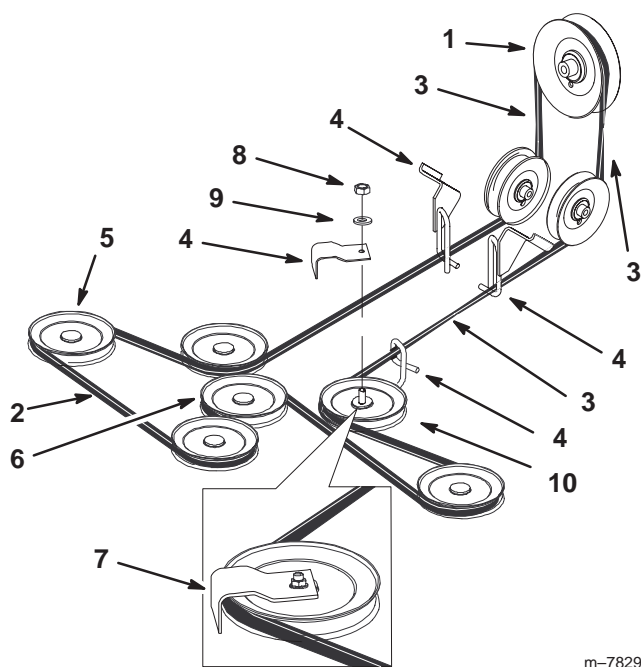

Figure 73
- Remove the nut, washer and belt guide from the rear leftside pulley (Fig. 73).
- Remove the mower belt from the belt guides and remove the belt (Fig. 73).
- Install the new mower belt around the mower spindle pulleys, mower idler pulley, into the belt guides, into rear idler arm assembly, and the clutch (Fig. 73).
8. Install the belt guide with a washer and nut onto the rear leftside pulley (Fig. 73).
Important Check the amount of twist in the belt between the pulleys. Make sure it is only what is specified in Figure 73.